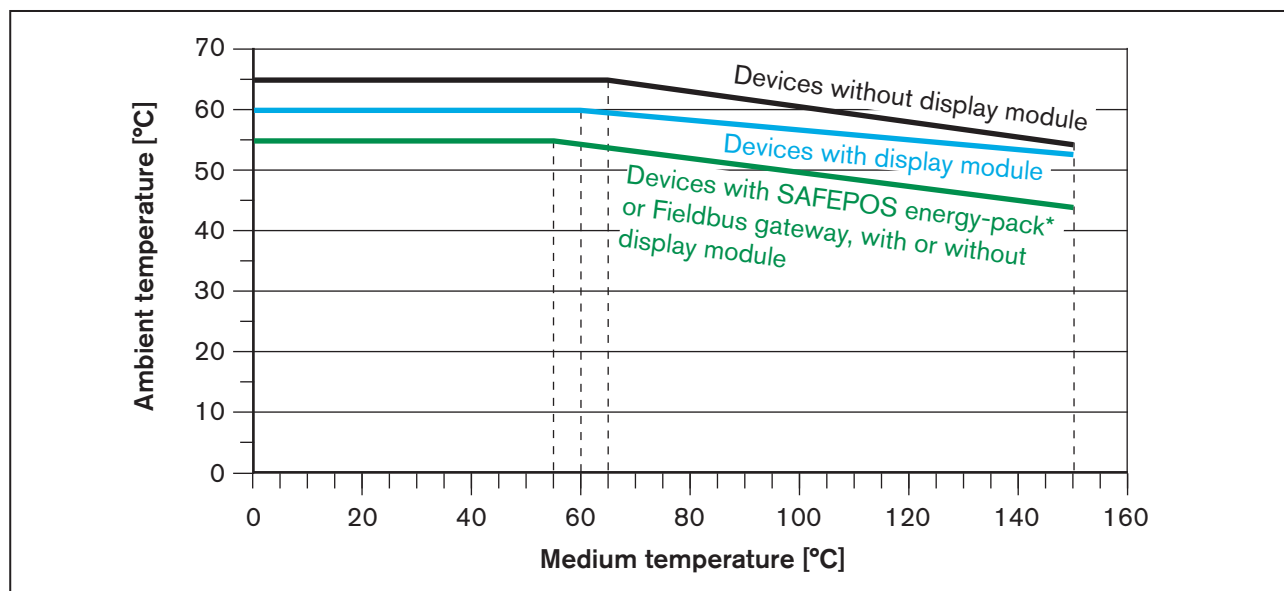

Figure 12: Temperature graph
- **Ambient temperature:** depends on the medium temperature. See “Figure 12: Temperature graph”.